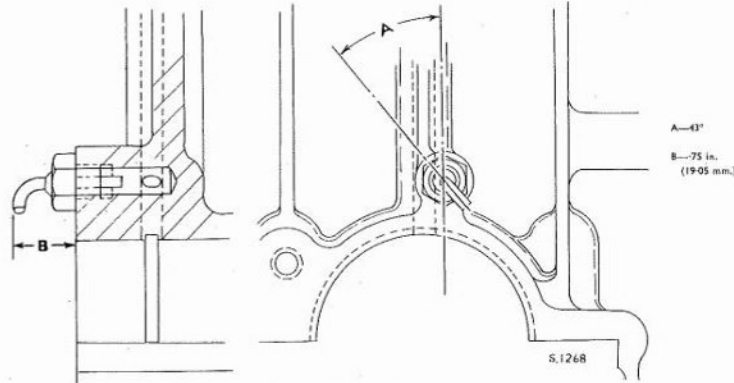

Fig. B.27. Correct location of the timing chain oil jet on the crankcase front face
5. Ensure the timing gear oil feed jet in the front of the cylinder block is not obstructed and is positioned in accordance with the dimensions shown in Fig. B.27.